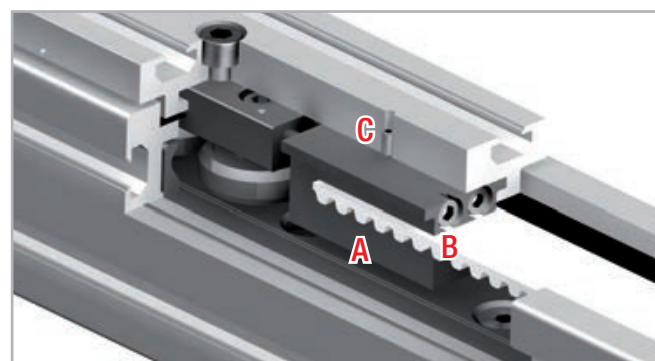

Fig. 51
1. Unscrew the safety screws C (on top of the slider plate) from the belt tensioning device A (see fig. 51).